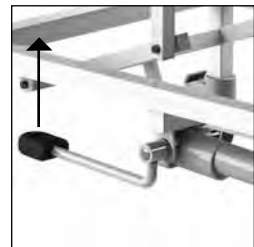

Figure 8: Moving downwards
- The shower stretcher / dressing table moves downwards as a result of pushing the foot pedal downwards (See figure 8).